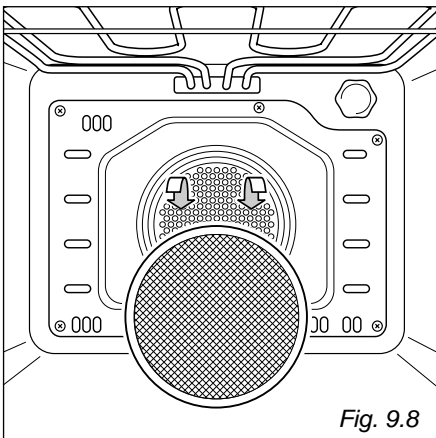

Fig. 9.8
- Slide in the grease filter on the back of the oven as in Fig. 9.8.
The grease filter can be removed for cleaning and should be washed regularly in hot soapy water (fig. 9.8).